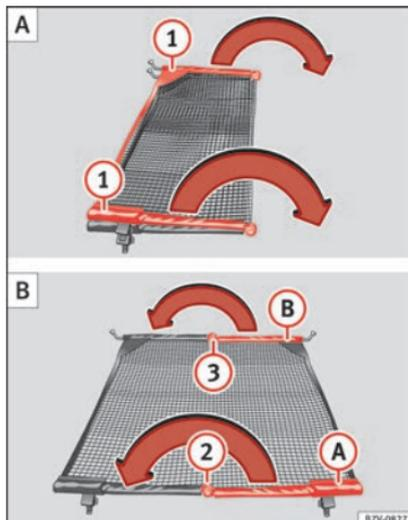

Fig. 166 Unfold the net partition ① then fold it again ② and ③
Fold out the cross support rods »» Fig. 166 ① for the net partition fully in the direction of the arrow until you hear a “click”.
- Press on the release button »» Fig. 166 ② and bend the rod (A) in the direction of the arrow with the release button pressed.
- Press on the release button »» Fig. 166 ③ and bend the rod (B) in the direction of the arrow with the release button pressed.